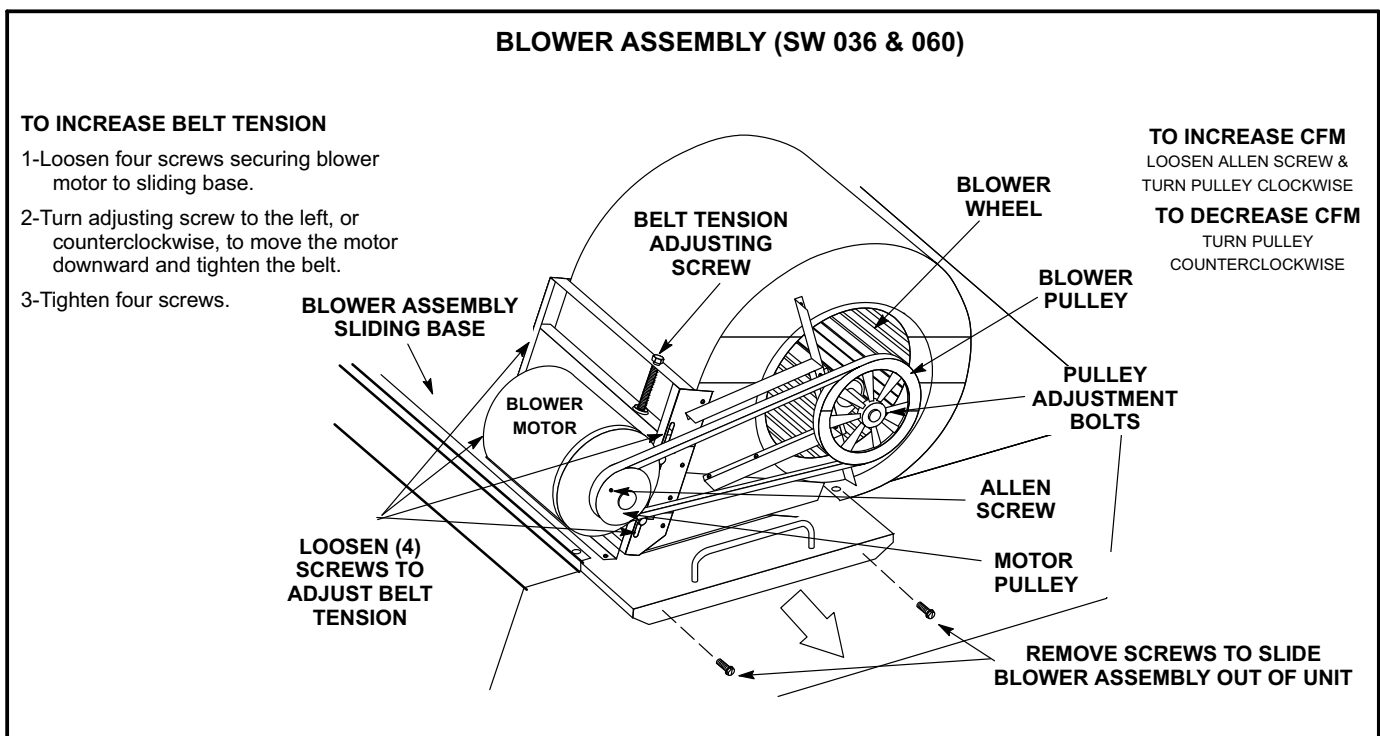

FIGURE 20
- 1- Remove screws on either side of blower assembly sliding base. See figure 20, 21, or 22.
- 4- *Constant Air Volume (CAV) Supply Air Blowers* - The blower RPM can be adjusted at the motor pulley. Loosen Allen screw and turn adjustable pulley clockwise to increase CFM. Turn counterclockwise to decrease CFM. See figure 20, 21, or 22. Do not exceed minimum and maximum number of pulley turns as shown in table 1.
Adjust belt tension as shown in figure 20, 21, or 22.